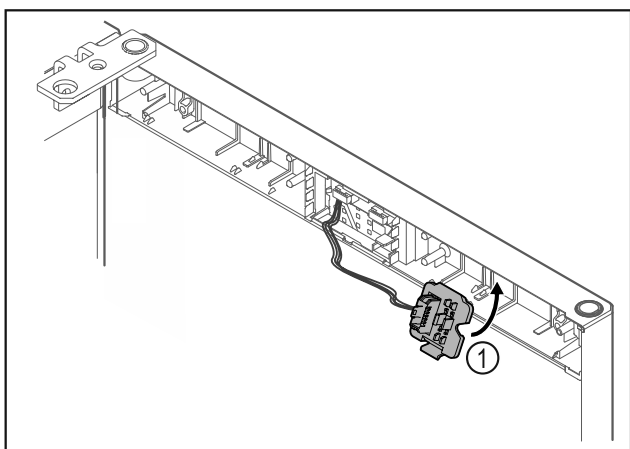

Fig. 14
- Engage the plug holder Fig. 14 (1) on the opposite side.*